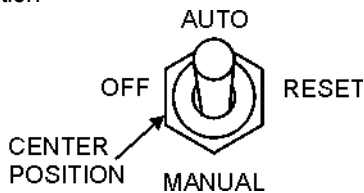

Figure 52. Off/Manual Auto Switch (OFF)
4. Place the Off/Manual/Auto Switch (Figure 52) in the "**OFF/RESET**" position